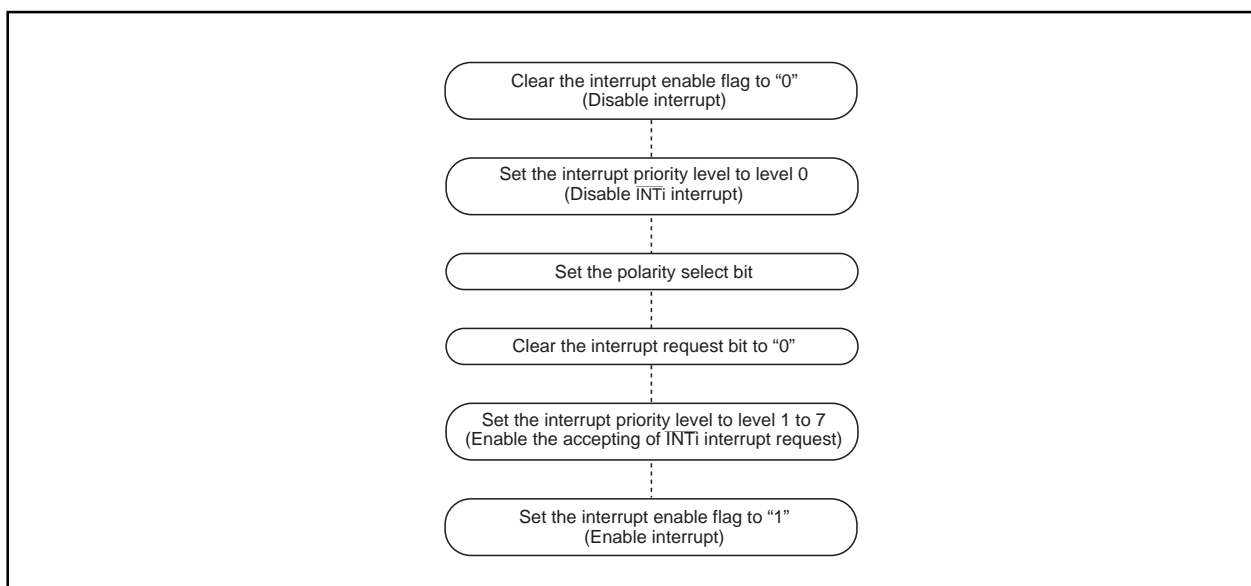

Figure 1.13.12. Switching condition of INT interrupt request
(3) The $\overline{\text{NMI}}$ interrupt
(4) External interrupt
- When the polarity of the $\overline{\text{INT0}}$ to $\overline{\text{INT2}}$ pins is changed, the interrupt request bit is sometimes set to "1". After changing the polarity, set the interrupt request bit to "0". Figure 1.13.12 shows the procedure for changing the $\overline{\text{INT}}$ interrupt generate factor.